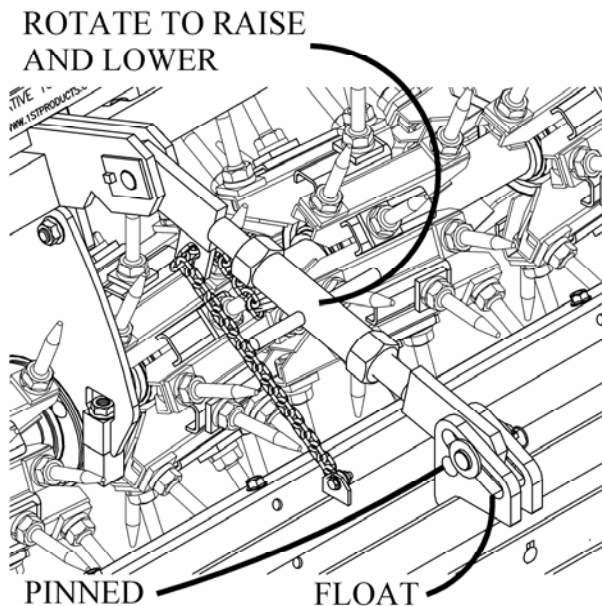

Figure 15: Rear Roller
The penetration depth of the tines depends primarily on the position of the rear roller. Refer to Figure 15.
1. Before adjusting the turnbuckle on the rear roller, ensure the roller is in the pinned position (Figure 15).